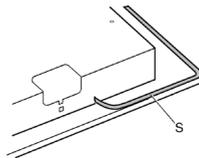

Fig.3
- Turn the appliance upside down and lay the rubber seal S along the external border (fig.3).